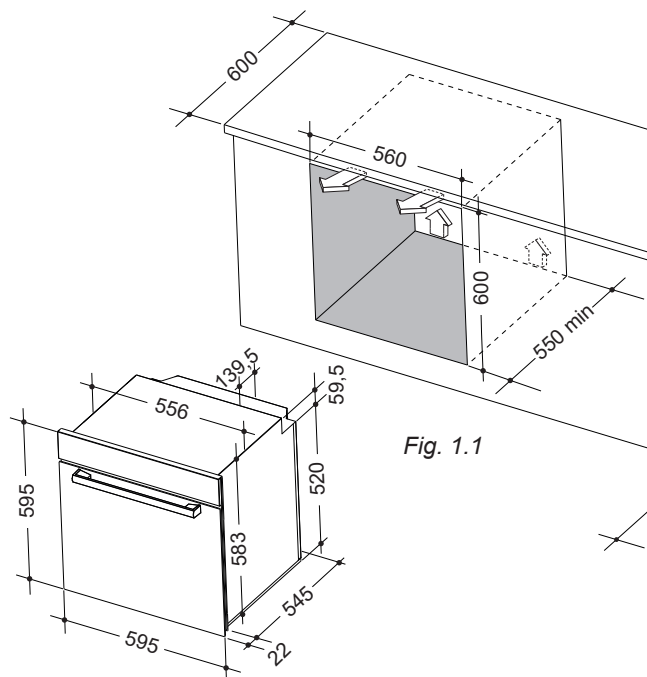

Fig. 1.1
- Installation requires a compartment as illustrated in figures 1.1 and 1.2.